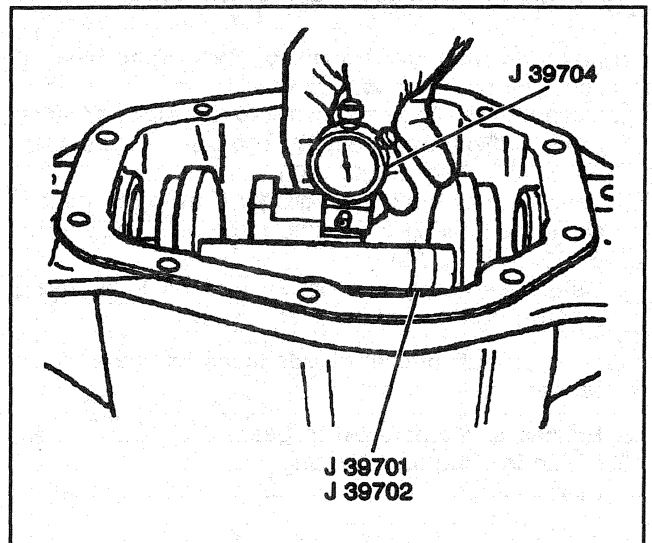

Figure 20—Dial Indicator On The Arbor
8. Slide the gage over the arbor (Figure 20).